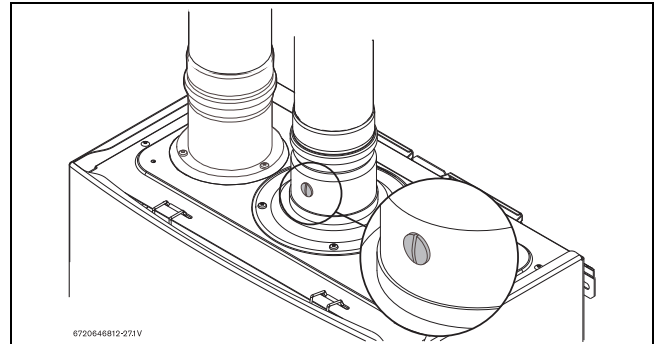

Fig. 71 Measuring port
- ▶ Remove brass flat head screw on the exhaust collar as seen in Fig. 71.